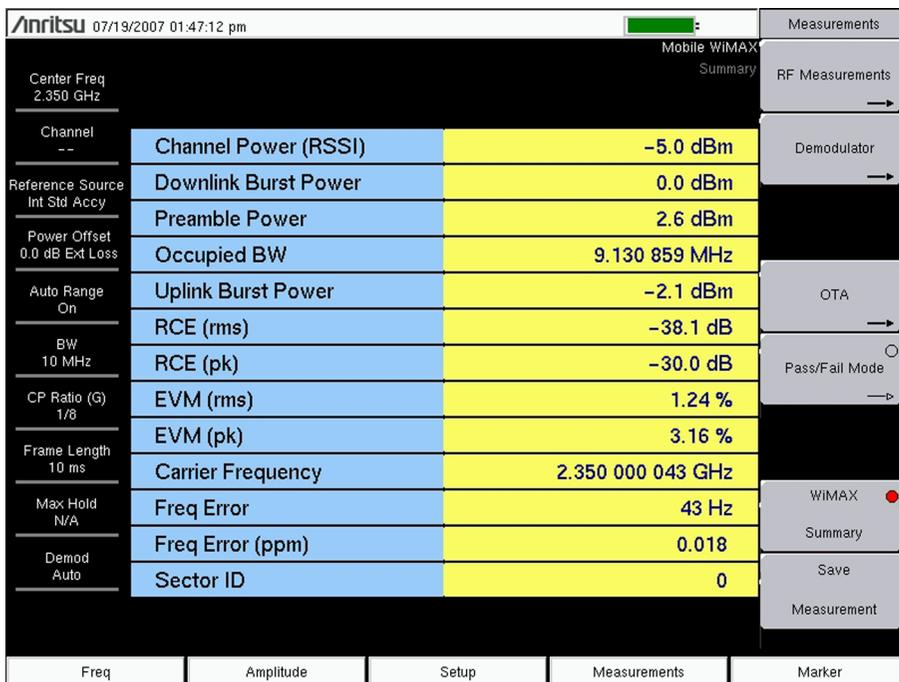

Figure 3-15. Mobile WiMAX OTA WiMAX Summary Measurement
2. Press the WiMAX Summary submenu key. The sample image in Figure 3-15 may differ from any image on your instrument.